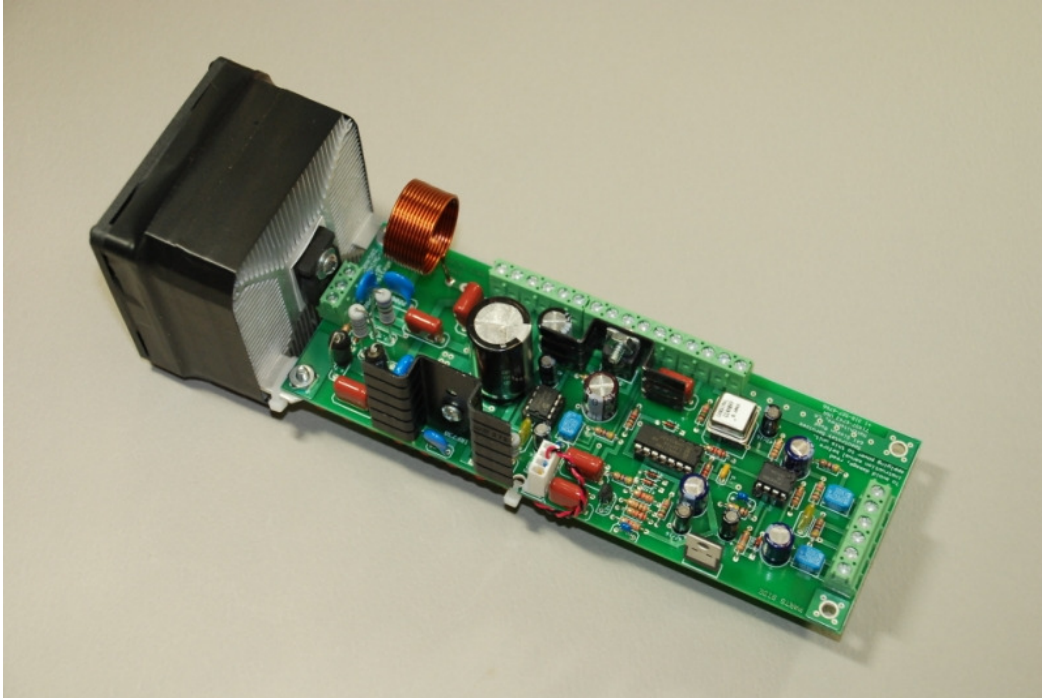

Figure 4.
7) Use some adhesive backed tape, such as plastic electrical tape, and carefully wrap the outside of the heat sink so the heat sink is completely covered. This ensures that no cooling air can escape through the sides and edges of the heat sink. Overlap the tape between the heat sink and the cooling fan to prevent air leaks at the junction between the heat sink and the fan. **(See Figure 4.)**